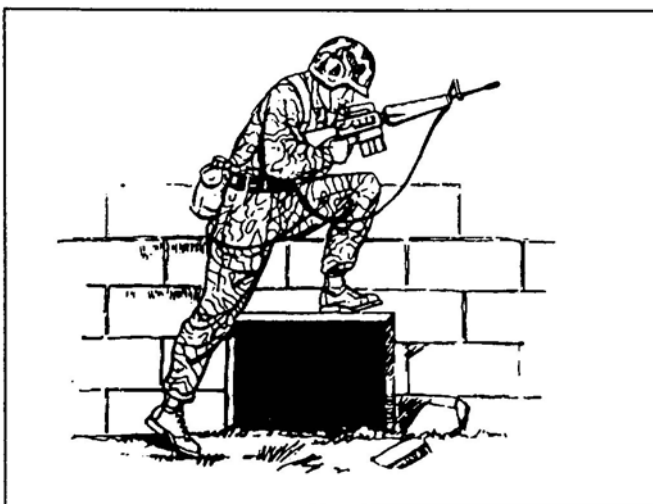

Figure 5
- (1) Do not merely walk or run past a basement window; your legs will present a good target to an enemy gunner inside the building.
- (2) The right way to pass a basement window is to keep as close to the building as possible and, when you reach the window, step or jump above and pass the window without exposing your legs (Figures 5 and 6).